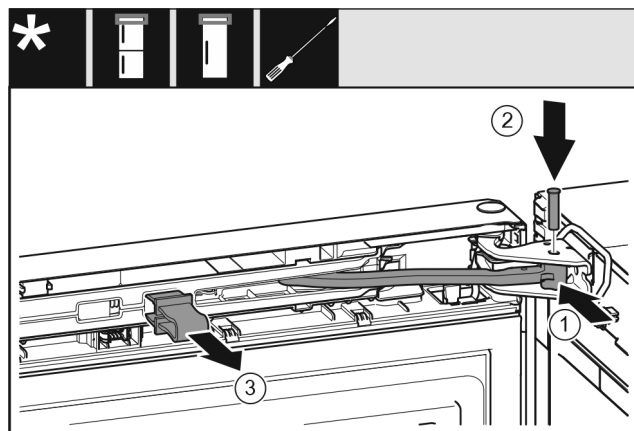

Fig. 24
- ▶ Turn the hinge in the bearing bracket. Fig. 24 (1)
- ▶ Insert the bolt in the bearing bracket and hinge. Make sure that the latching lug is sitting correctly in the groove. Fig. 24 (2)
- ▶ Remove the locking device. Fig. 24 (3)